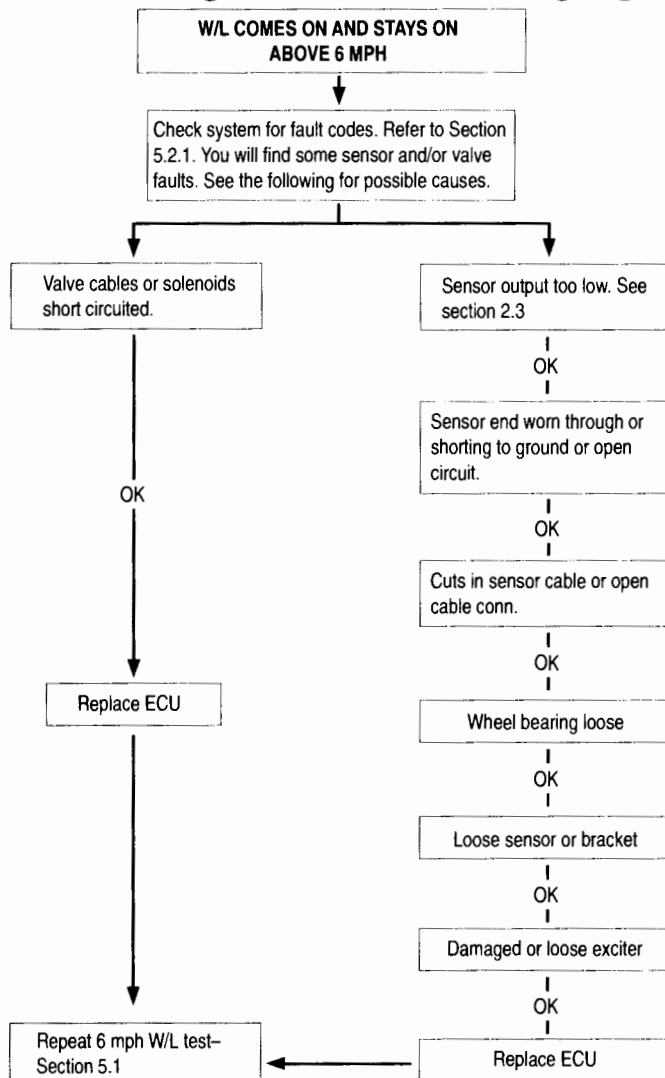

FIG. 24
- If the warning light turns on above 6 mph there is a problem. Refer to figure 24 for troubleshooting procedures.